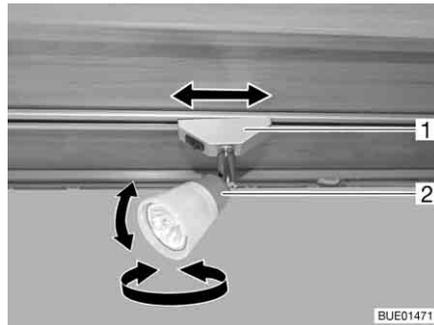

Fig. 62 Spotlight
**Rotating:** ■ Grasp the housing (Fig. 62,2) and turn it.
**Shifting:** ■ Grip holder (Fig. 62,1) and turn by approx. 45°.
**Removal:** ■ Grip holder (Fig. 62,1) and turn by approx. 90°.